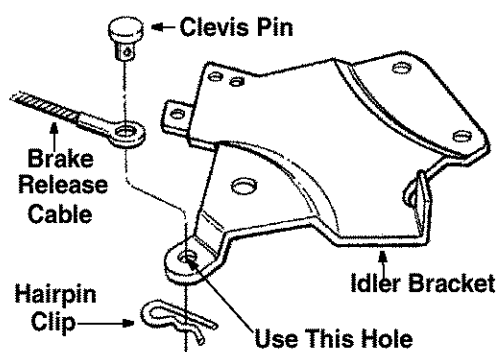

Figure 13
- Secure the brake release cable to the tractor idler bracket with clevis pin and small hairpin clip, using the hole in the idler bracket as shown in Figure 13.